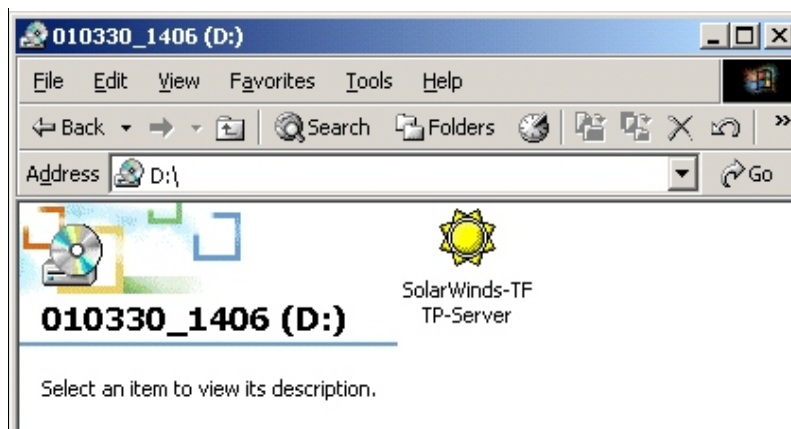
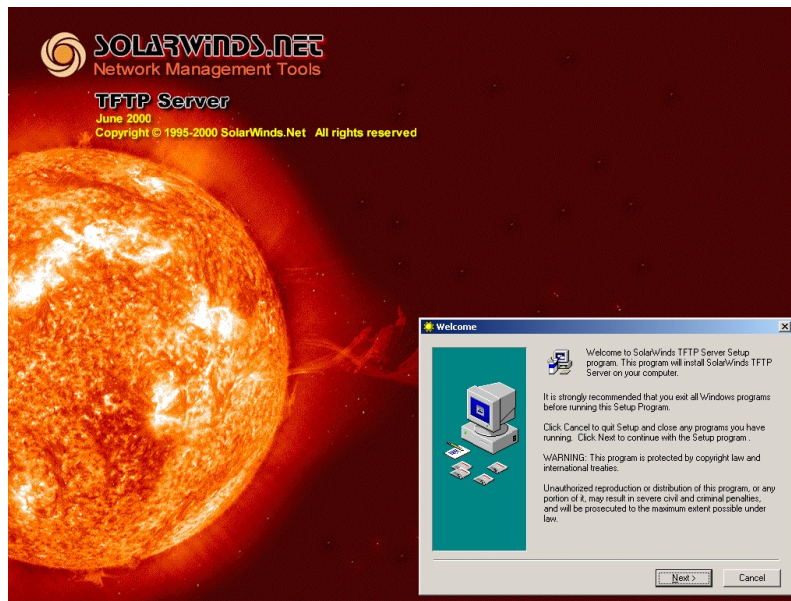

Figure B-1.2
Figure B-1.3
3. Double-click the icon **Solar Winds-TFTP-Server** (see figure B-1.2). This initializes the Windows install wizard, guiding step by step through the installation procedure. Upon completion the computer screen should look like figure B-1.3.